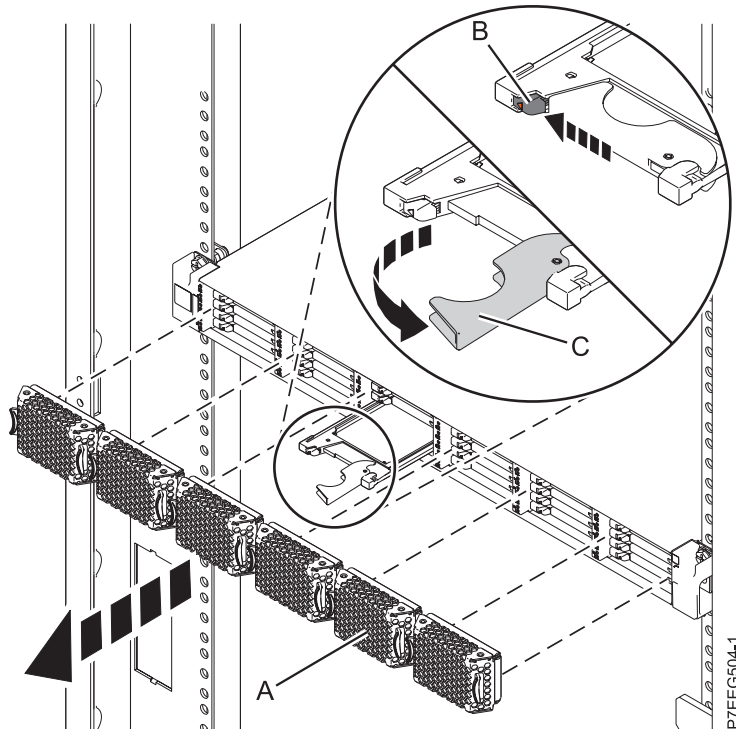

Figure 21. Removing the solid-state drive from the 5888 PCIe storage enclosure
4. Pull off the bezel (A) that covers the slot that contains the solid-state drive.
5. When the solid-state drive identify LED turns on solid, slide the release latch (B) over gently to unlock the drive handle. See Figure 21 on page 35.
6. Grasp the handle (C) and pull the drive partially out of the slot.